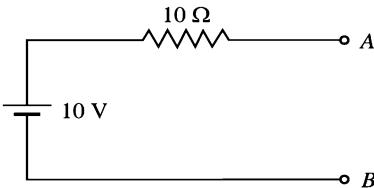

Fig. 1.16
Example 1.3. Convert the constant voltage source shown in Fig. 1.16 into constant current source.
- (i) Place a short across AB in Fig. 1.16 and find the short-circuit current I .